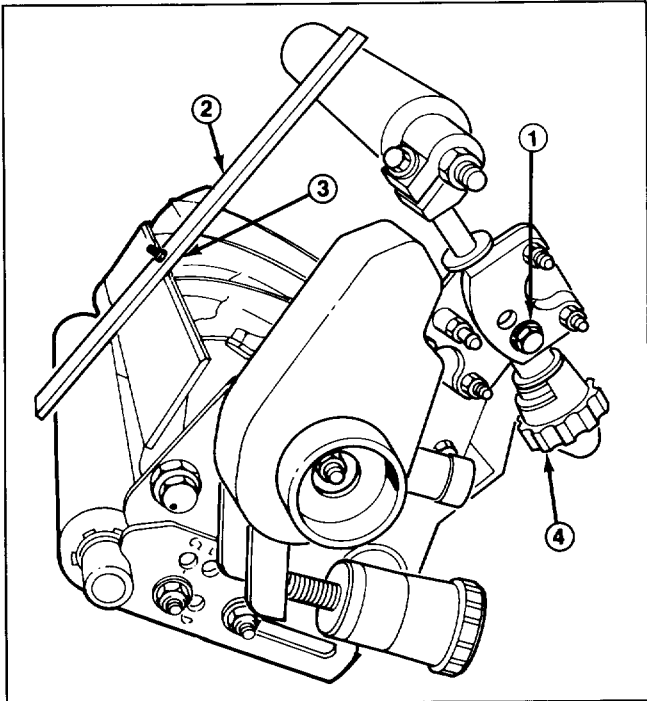

Figure 7
2. Turn cutting unit over and loosen locknuts securing front roller adjusting screws to Height of Cut brackets (Fig. 7).
4. Place the bar across the front and rear rollers and adjust the height of cut knob until the underside of screw head engages the bedknife cutting edge (Fig. 7).